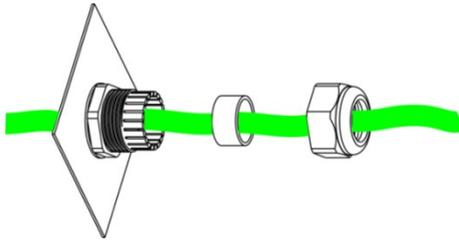

Figure 1
Step 2: Please select the 5.5 - 8.0mm2 ground wires, loosen the equipment's protective earth (PE) thread locknut, push the wires through the water-proof plug, enter the wires in the copper pillar screw hole on the right-hand side of the converter, and secure the wires. 3.0 Nm torque must be applied on M5 screws for proper tightening, as shown in Figures 1 and 2.